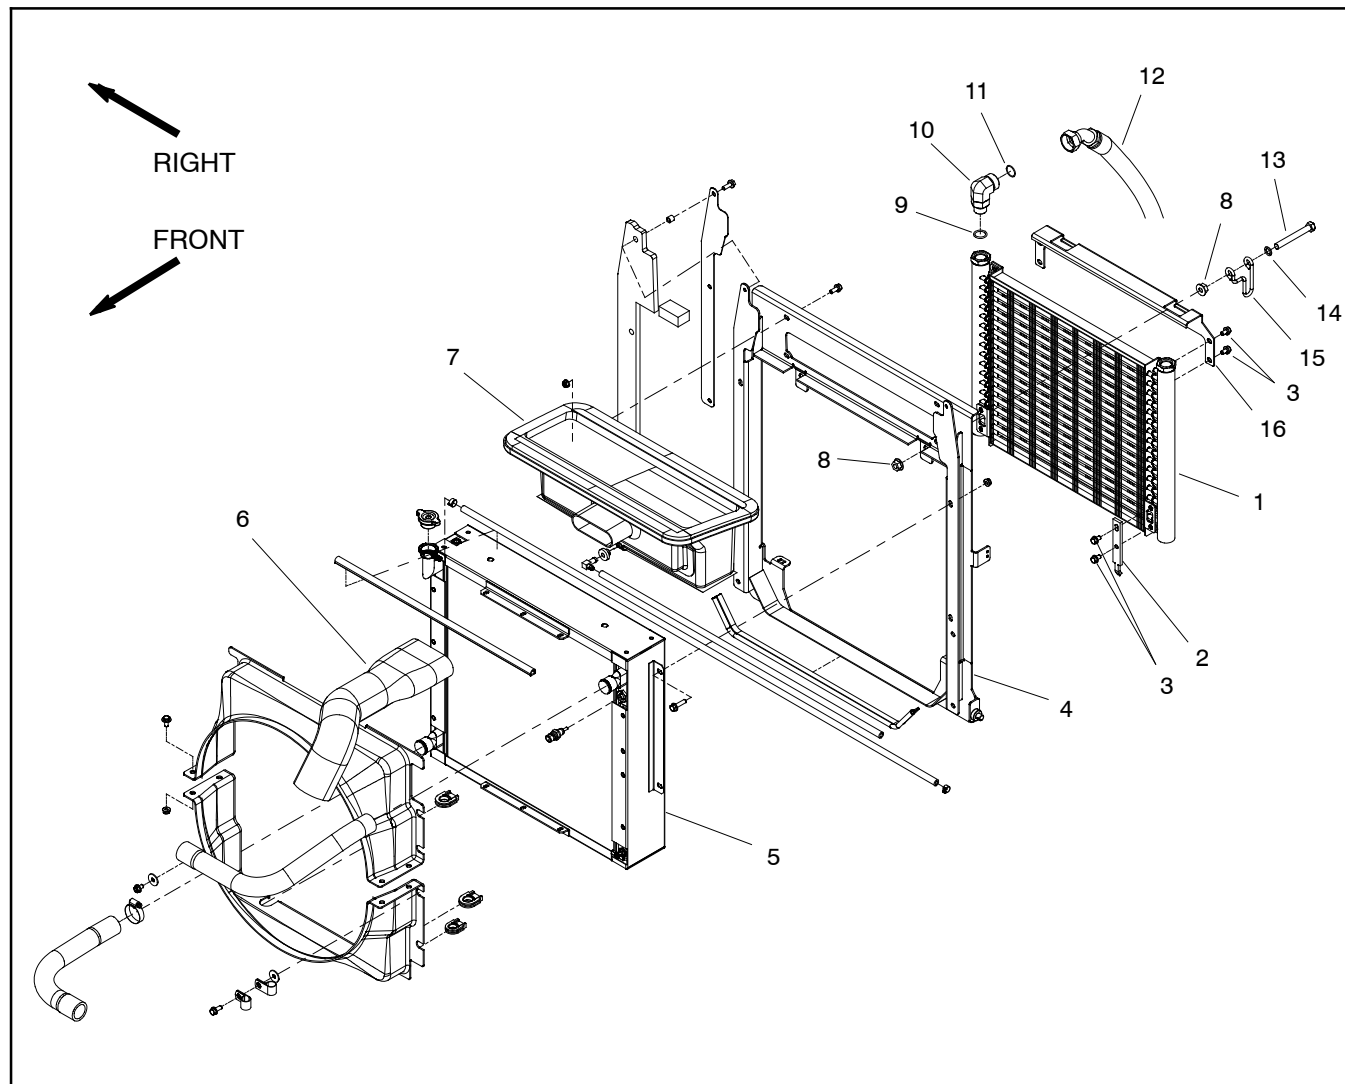

Figure 100
## Removal (Fig. 100)
4. Remove oil cooler using Figures 100, 101 and 102 as guides.
## Installation (Fig. 100)
2. Install oil cooler using Figures 100, 101 and 102 as guides. See Hydraulic Hose and Tube Installation in the General Information section of this chapter for hydraulic hose installation information.